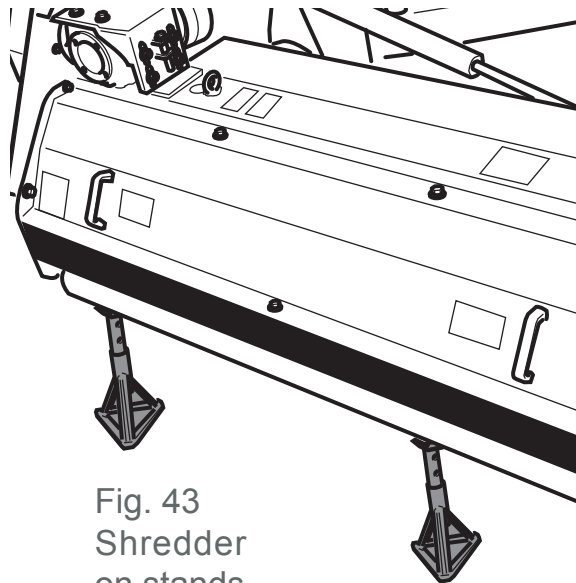

Fig. 43
- 2) For models without opening hood, restart the tractor, raise and support the shredder on robust and stable stands, high enough to facilitate the operation of replacement of the tools (Fig. 43). Otherwise access the rotor compartment by opening the hood.